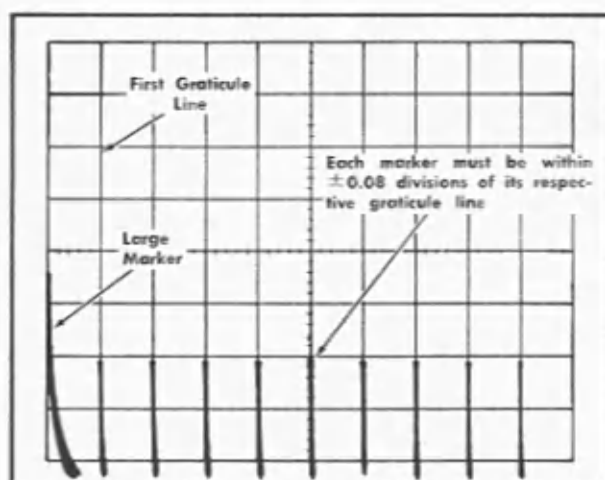

Fig. 6-45. Typical CRT display when checking magnifier timing and linearity.
- CHECK—CRT display for one small marker each division between the first and ninth graticule line (see Fig. 6-45). With the second marker positioned to the first graticule line, the tenth marker must be within ± 0.16 division of the ninth graticule line (timing within $\pm 2\%$ when normal sweep calibration, step 38, is adjusted correctly; otherwise check within $\pm 5\%$).
d. CHECK—Each marker in CRT display must be within ± 0.08 division of its respective graticule line (linearity within 1%; see Fig. 6-45).